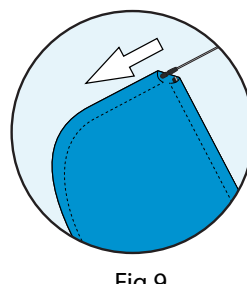

Fig 9.
7. Join the two pieces of carbon fibre rod together. Feed the carbon fibre rod into the top of the sleeve on the curved edge, black tip end first. (Fig 9)